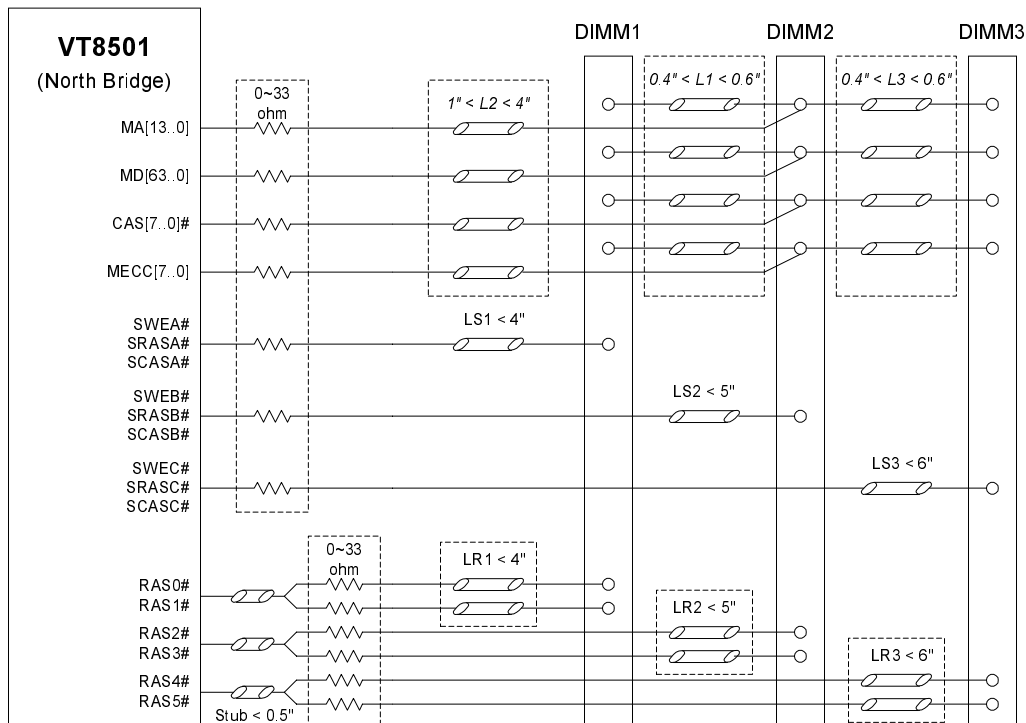

Figure 2-43. Star Style Routings of Three-DRAM DIMM Slots
- For star style routing, traces of MA[13..0], MD[63..0], CAS[7..0]# and MECC[7..0] should be connected to DIMM2 first and then separated into two trace segments to DIMM1 and DIMM3 respectively (see figure 2-43). It is recommended to make both segments L1 and L3 equal length.